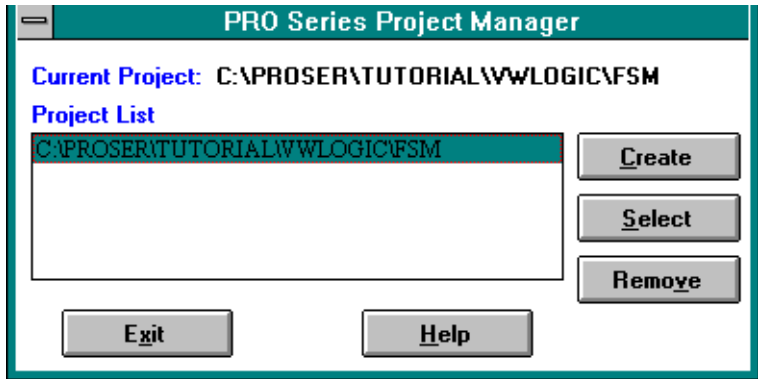

Figure 2-6 Project Manager Dialog Box
4. Select the **PROcapture** button in PROflow. The Design Entry dialog box appears as in Figure 2-6: